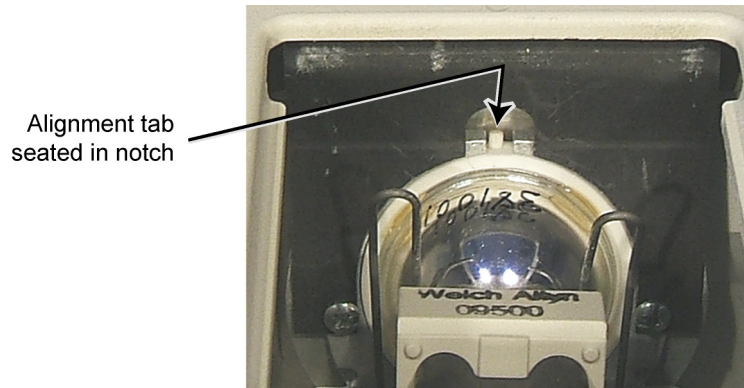

Figure 13
8. Holding it by the ceramic base, and making sure the alignment tab goes into the notch (Figure 13), pull the retaining springs back and slip the lamp into position in its circular pocket.